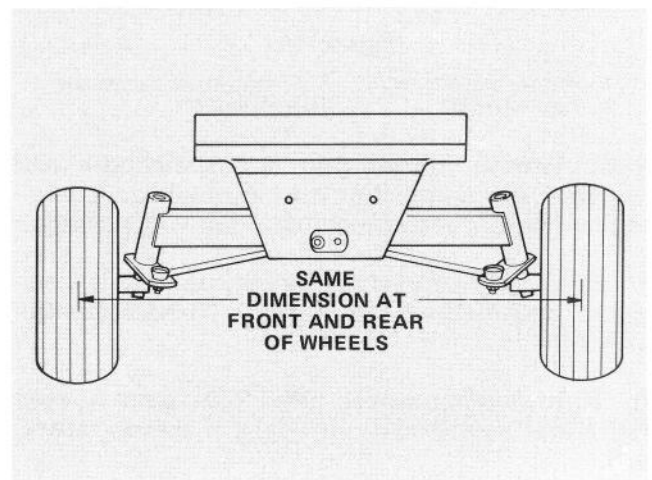

Figure 63
2. Loosen the jam nuts on both tie rods. Adjust both tie rods until center-to-center distance at front and back of rear wheels is the same (Fig. 63).